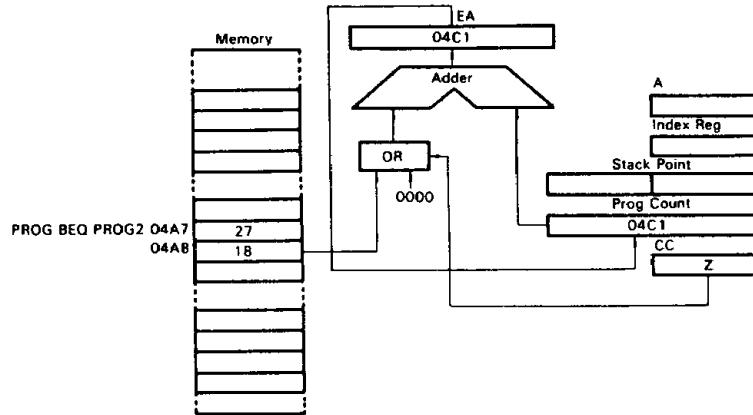

Figure 32 Example of Relative Addressing
See Fig. 32. Relative addressing is only used in branch instructions. When a branch occurs, the program counter is loaded with the contents of the byte following the opcode. $EA = (PC) + 2 + Rel.$ where Rel. indicates the 8 bit signed data in the location following the instruction opcode. If no branch occurs, Rel.=0. When a branch takes place, the program jumps to any byte within the range +129 ~ -127 of the present instruction. These branch instructions are two bytes long.